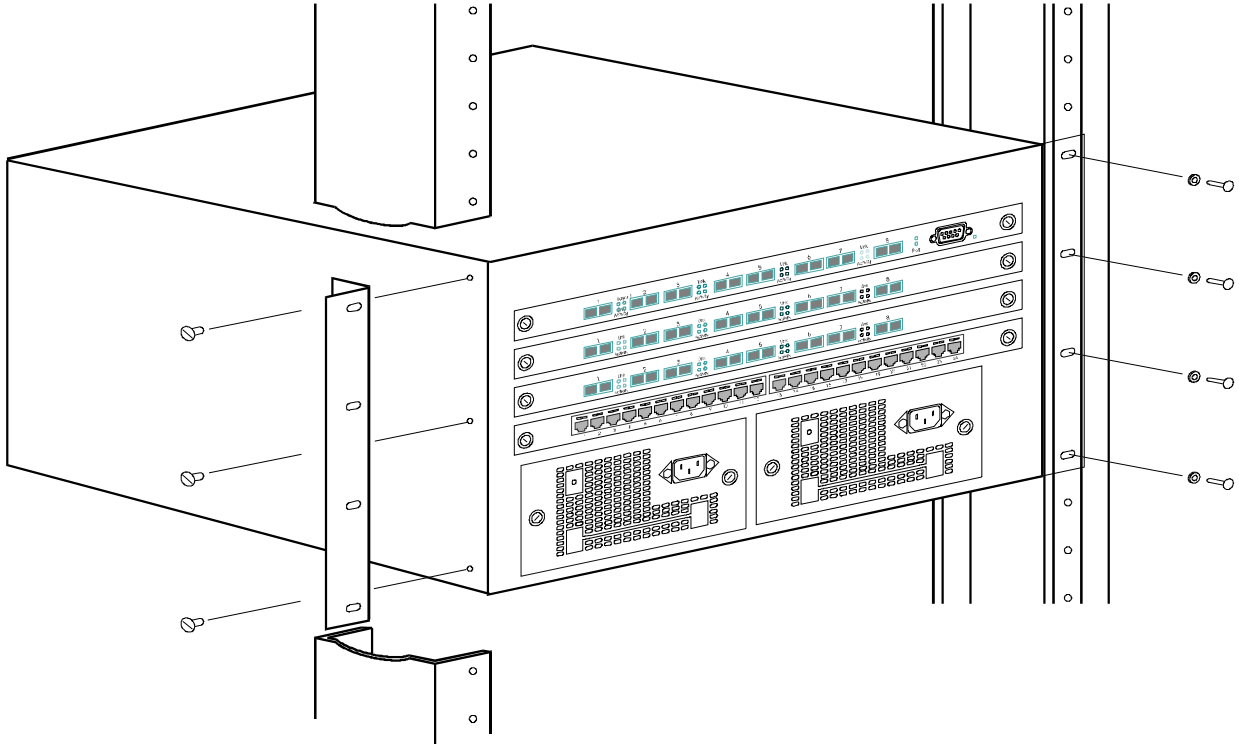

Figure 2.7 Installing a 9304M routing switch in a rack mount
2. Attach the mounting brackets to the sides of the routing switch as illustrated in Figure 2.7.
3. Attach the system in the rack as illustrated in Figure 2.7.